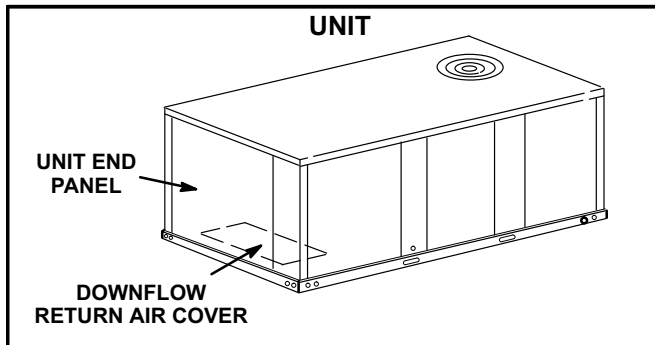

FIGURE 10
- 1- Remove unit end panel. See figure 10.
- 2- Install the downflow return air cover in horizontal airflow applications. Secure with #10 sheet metal screws provided in kit. See figure 10.